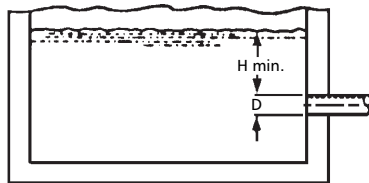

Figure 2
- Insure that the size and minimum liquid submergence, over the suction inlet, is sufficient to prevent air from entering through a suction vortex. See typical suction piping Figures 2 through 5.